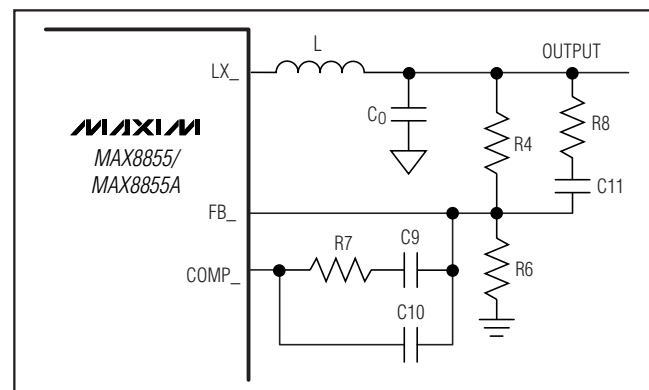

Figure 4. Type III Compensation Network
The output voltages for regulator 1 (with REFIN connected to SS1) and regulator 2 are set with a resistor voltage-divider connected from the output to FB_ to GND as shown in Figure 4. Select a value for the resistor connected from output to FB_ (R4 in Figure 4) between 2kΩ and 10kΩ. Use the following equations to find the value for the resistor connected from FB_ to GND (R6 in Figure 4):
The high-switching-frequency range of the MAX8855/MAX8855A allows the use of ceramic output capacitors. Since the ESR of ceramic capacitors is typically very low, the frequency of the associated transfer-function zero is higher than the unity-gain crossover frequency, f_C , and the zero cannot be used to compensate for the double pole created by the output filtering inductor and capacitor. The double pole produces a gain drop of 40dB and a phase shift of 180° per decade. The error amplifier must compensate for this gain drop and phase shift to achieve a stable high-bandwidth closed-loop system. Therefore, use type III compensation as shown in Figure 4. Type III compensation possesses three poles and two zeros with the first pole, f_{P1_EA} , located at 0Hz (DC). Locations of other poles and zeros of type III compensation are given by: